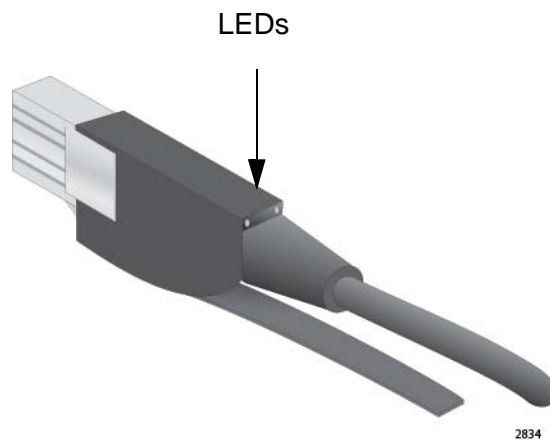

Figure 15. Port LEDs on an RJ Point 5 Cable Connector for the AT-SBx81GT40 Line Card
**LEDs** The LEDs for a port on the AT-SBx81GT40 Line Card are found on the RJ point 5 cable connector. The LEDs are shown in Figure 15.